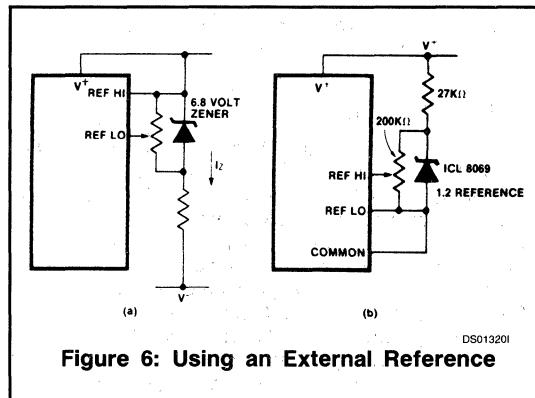

Figure 6: Using an External Reference
The limitations of the on-chip reference should also be recognized, however. The reference temperature coefficient (TC) can cause some degradation in performance. Temperature changes of 2 to 8°C , typical for instruments, can give a scale factor error of a count or more. Also the common voltage will have a poor voltage coefficient when the total supply voltage is less than that which will cause the zener to regulate ($< 7V$). These problems are eliminated if an external reference is used, as shown in Figure 6.